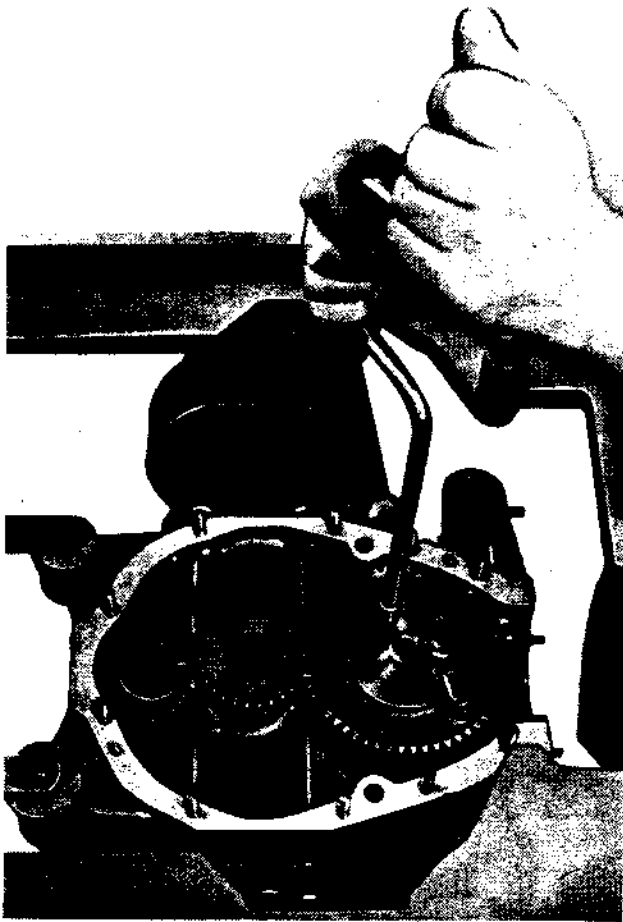

Figure 22. Installing Gears in Crankcase.
(3) Install cam gear to camshaft with four 1/4 inch cap screws. The timing mark on the cam gear must mesh between the two timing marks on the crankshaft gear (Fig. 6). Place a screw driver in one of the lightening holes in the cam gear and rotate gear until screw driver is blocked against the crankcase, preventing gears from turning when cap screws are tightened. If cam gear does not have lightening holes utilize other suitable means, such as a proper wedge between the teeth of crankshaft and cam gears to prevent the gears from rotating when the cap screws are tightened. Be sure the wedge does not damage teeth of the gears. Tighten cap screws on cam gear and crankshaft gear with standard 1/4 inch wrench (Fig. 22).